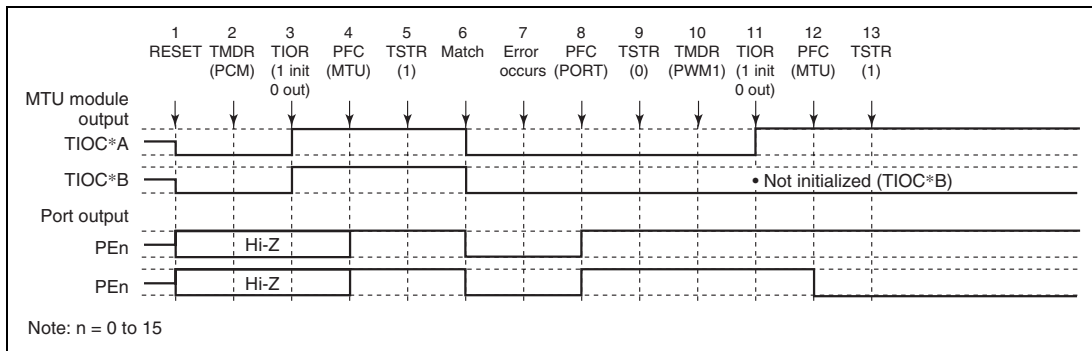

Figure 8.101 Error Occurrence in Phase Counting Mode, Recovery in PWM Mode 1
(18) Operation when Error Occurs during Phase Counting Mode Operation, and Operation is Restarted in PWM Mode 1: Figure 8.101 shows an explanatory diagram of the case where an error occurs in phase counting mode and operation is restarted in PWM mode 1 after re-setting.